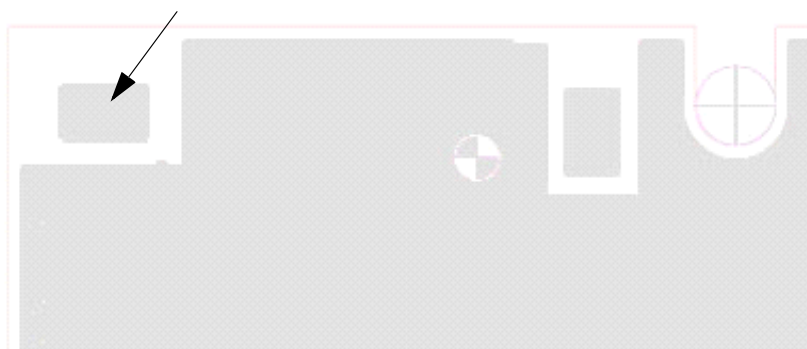

Figure 46: GPS antenna pad placement
In addition to the connectors illustrated above, the U.FL-LP-(V)-040(01) version is offered as an extremely space saving solution. This plug is intended for use with extra fine cable (up to $\varnothing 0.81\text{mm}$) and minimizes the mating height to 2mm. See Figure 46 which shows the Hirose datasheet.